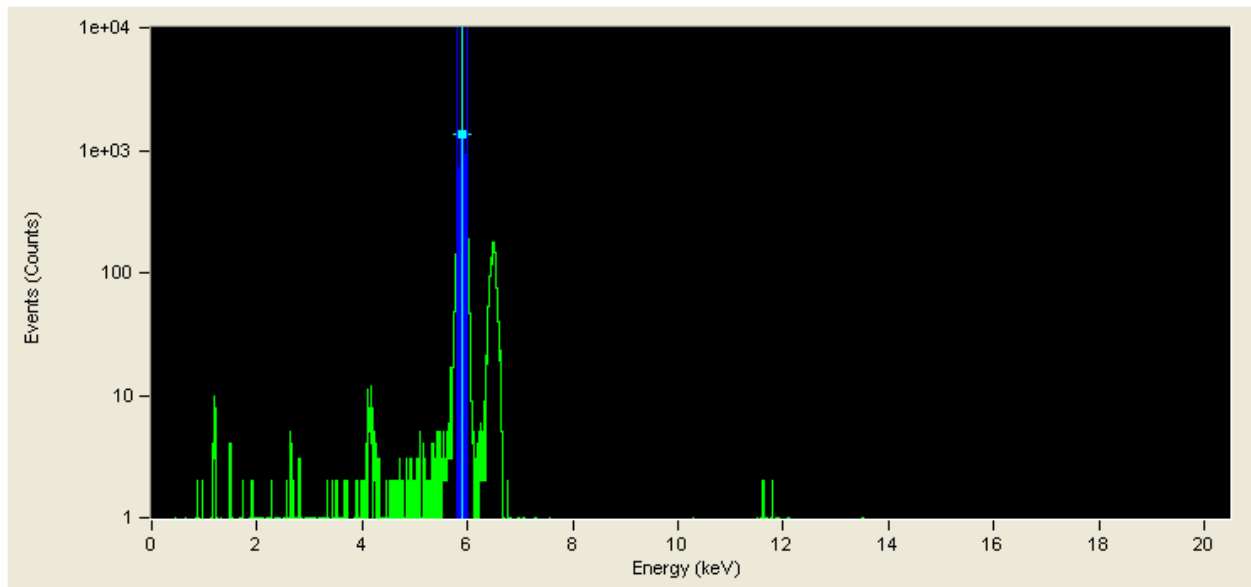

Figure 3-9: The Fe⁵⁵ K α peak is now displayed properly at 5.9keV.
3. Press the **[Start Run]** button to acquire more data. Note that the spectrum should now be calibrated as in Figure 3-9. If the ROI is properly adjusted, the **Mean** field in the **ROI** table should match the calibration energy entered as in Figure 3-8C.